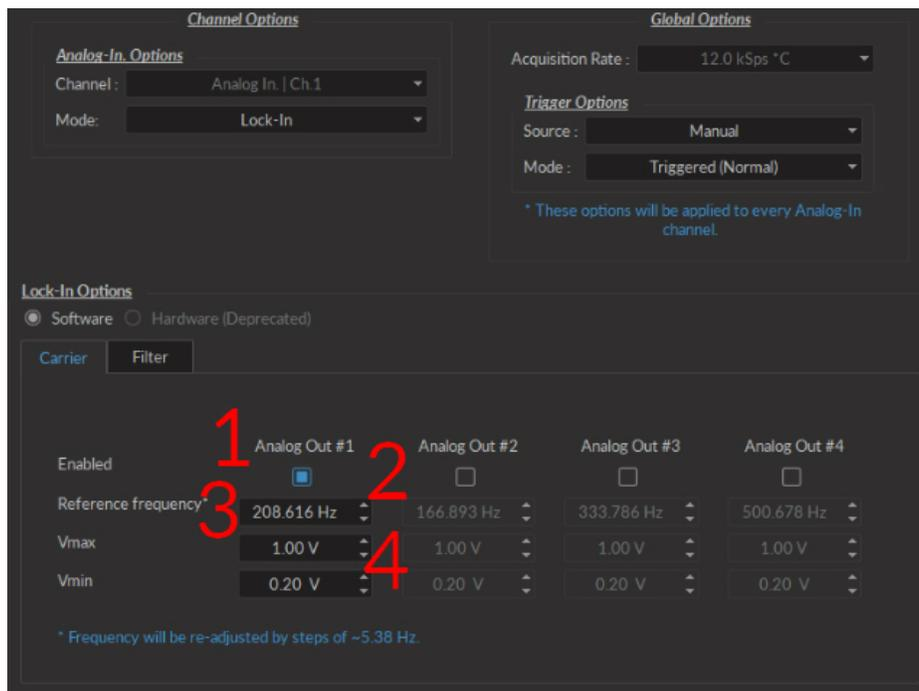

Figure 3.26: Channels configuration, Analog Input Lock-in Mode, Carrier Tab
The following section describes the usage of the **Lock-in** mode for **Analog Input** channels. Once the **Lock-in** channel mode is chosen, the **Lock-in options** box (Fig. 3.26) appears, containing the following parameters.
1. The **Channel List** (Fig. 3.26) indicates which channels are used to output a reference frequency. Multiple output channels can be selected for a single input channel. Any output channels already configured by a different input channel will be usable, but not configurable. The output configuration must be changed in the initial input channel.
3. The **Reference frequency** (Fig. 3.26) allows the choice of a reference frequency. The reference frequency should not be a multiple of a known noise frequency (e.g. 60 Hz), or a multiple of another reference frequency.
4. The **Vmax/Vmin** (Fig. 3.26) defines the voltage sent from the console to the device. The minimum possible difference is of 0.1 V for the **LEDD**. The **Vmin** value is 0.1 V for the **LEDD** and 0.2 V for the **LEDRV**.